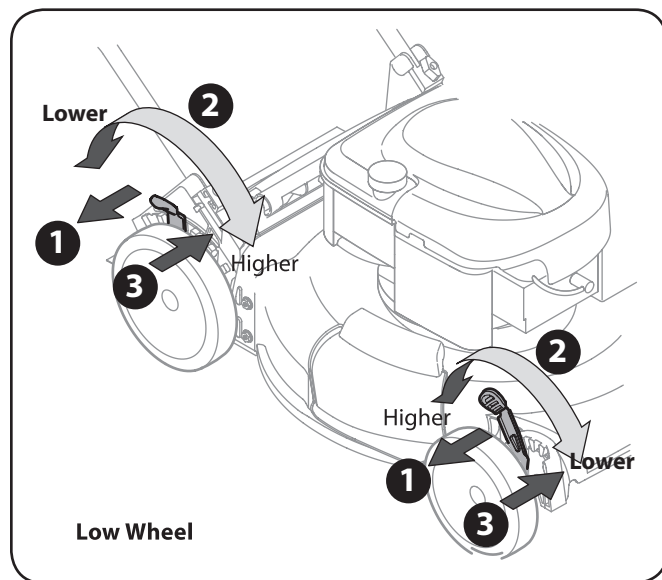
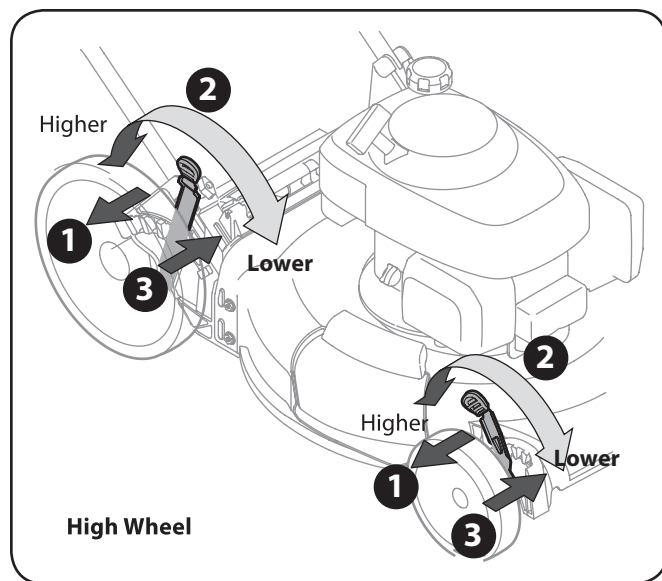

Figure 3-9
Figure 3-10
2. Move lever to desired position for a change in cutting height. See Figure 3-9 for low wheel and Figure 3-10 for high wheel.
3. Release lever towards deck. See Figure 3-9 and Figure 3-10